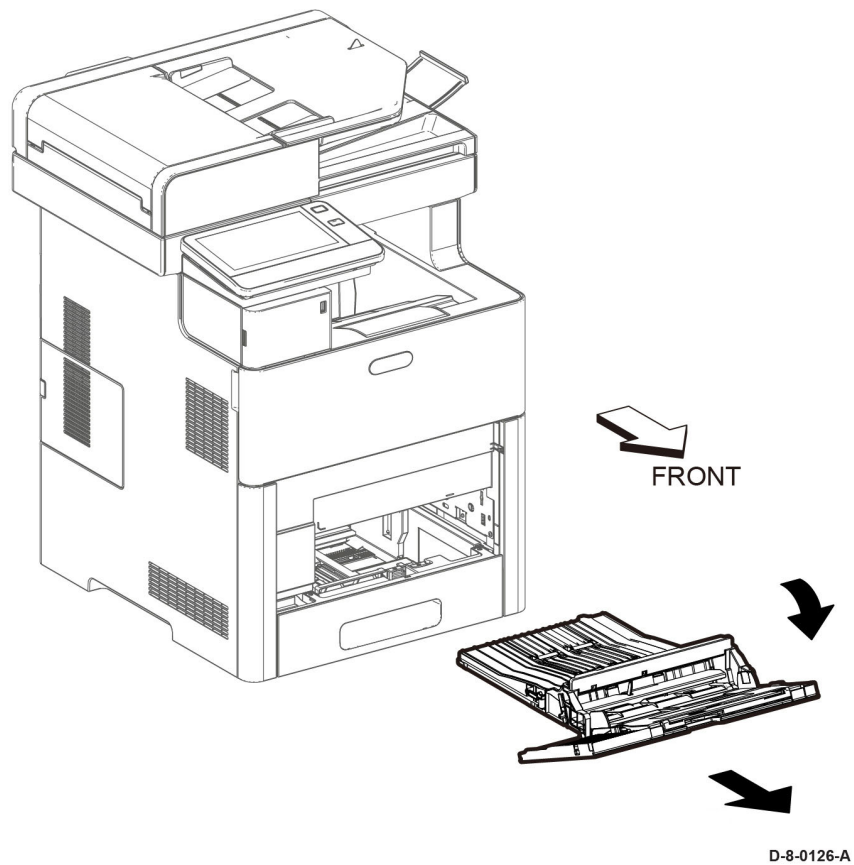

Figure 1 MSI main tray removal
1. Open the MSI bypass tray assembly, Figure 1.
2. Remove the MSI bypass tray assembly, Figure 1.